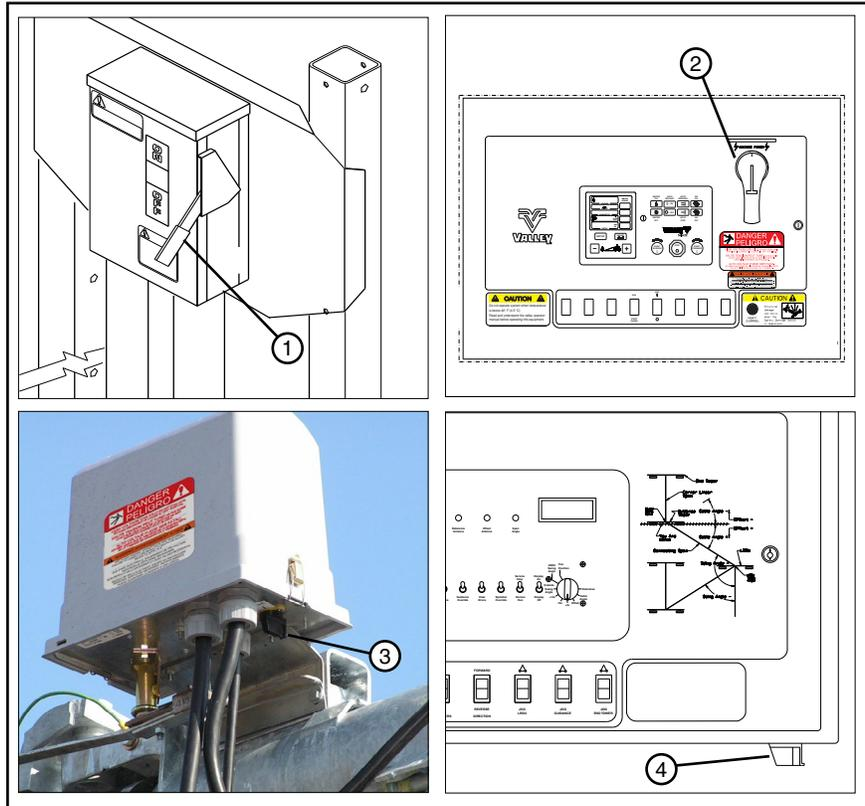

Figure 36-1 1. Main Service Disconnect Switch
- Main Service Disconnect Switch from public power to the control panel. See figure 36-1.
- Control Panel Main Disconnect Switch. See figure 36-1.
- Any Tower Box Disconnect Switch. See figure 36-1.
- Guidance Control Panel Disconnect Switch. See figure 36-1.